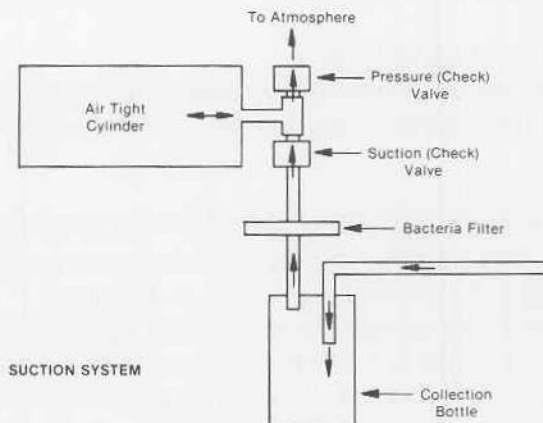

FIGURE 2
5.0 OPERATING PRINCIPLE: See Fig. 2